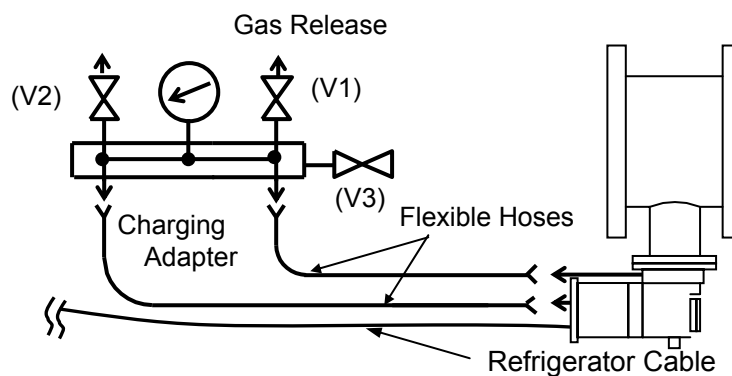

Figure 6-4 Connecting Charging Adapter
4. Attach the charging adaptor to the disconnected end of the helium SUPPLY and RETURN flexible hoses.(See Figure 6-4).